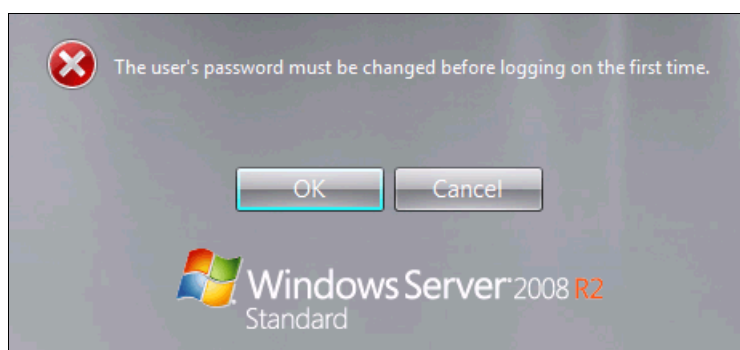

Figure 9-201 Password prompt after installing Windows
16. When Windows is done installing and you are prompted to enter a password (Figure 9-201), click **OK**, and then enter your password.